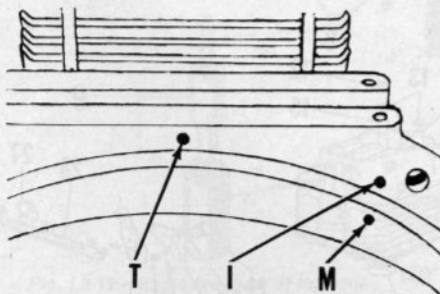

Fig. L3-6—View of timing marks located on fly-wheel of some models.
Injection occurs between 28°30' and 30°. To check injection pump timing on Models 834 and L54, rotate crankshaft so injection timing mark (I - Fig. L3-6 or L3-7) is aligned with reference mark
delivery valve holder (25) and remove spring (23) and delivery valve (22) and then screw delivery valve holder (25) into pump. Move throttle to full speed position. Rotate engine in normal direction (counter-clockwise at pto) so number 1 piston is on compression stroke. Note fuel in delivery valve holder will spill out of holder. Stop rotation at moment fuel ceases to flow out of holder. Timing marks (I and M - Fig. L3-6 and L3-7) should be aligned. To advance injection timing, remove shim